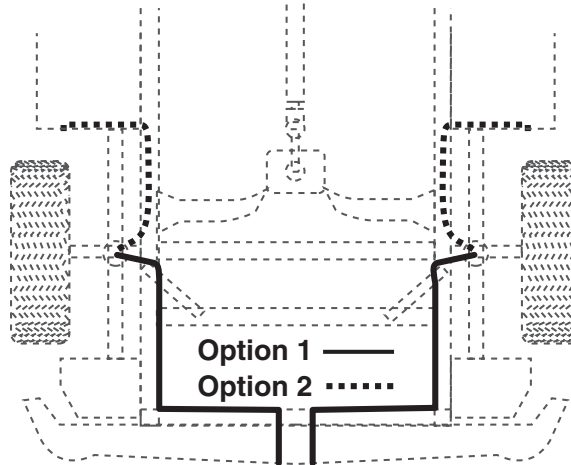

fig. 18
6. Route the air line along the frame to the air fitting on the air spring (fig. 18). Keep AT LEAST 6" of clearance between the air line and heat sources, such as the exhaust pipes, muffler, or catalytic converter. Avoid sharp bends and edges. Use the plastic tie straps to secure the air line to fixed, non-moving points along the chassis. Be sure that the tie straps are tight, but do not pinch the air line. Leave at least 2" of slack to allow for any